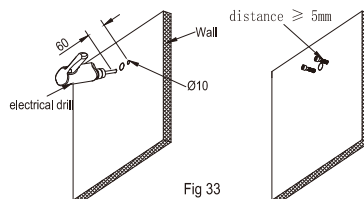

Fig 33
Step 4 . Place the bracket Type D at the position of the mounting hole at the mark on the wall, with the hole spacing of 60mm. Use an electric drill to drill a hole $\Phi 10$ mm at the mark, inside the screw curd screw hole, and the head is more than 5mm from the wall, as shown in Fig. 33